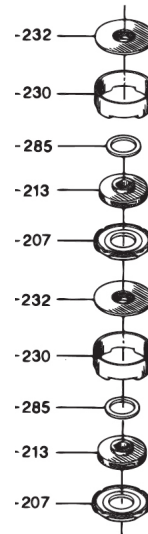

Fig. 10 Wear parts MP 1 pump
For the replacement of wear parts including impellers, see fig. 10, a service kit (art. no.: 12274301) is available. The kit includes two complete pump stages. Replace the wear parts including impellers as shown in section 10. Dismantling and assembly.
In addition, a service kit (product number 12274311) is available. This kit includes wear parts for two pumps, i.e. 4 washers, pos. 285, and 4 seals, pos. 207. See fig. 10.